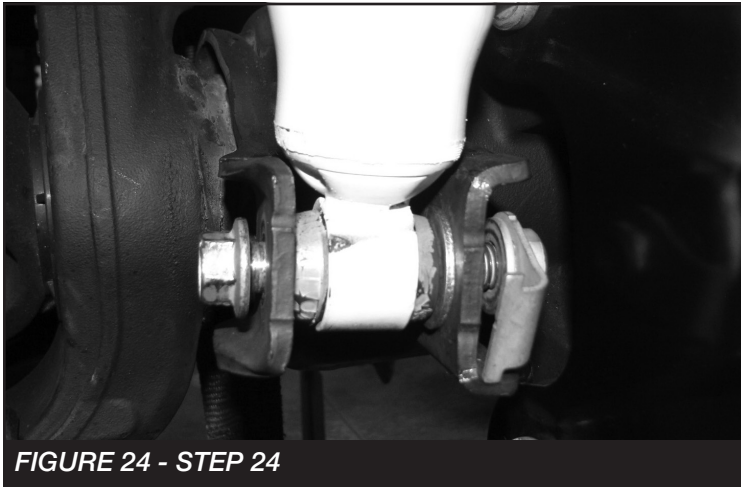

FIGURE 24 - STEP 24
24. Install the new front shocks FTS7236, FTS6236 or FTS810962 with the supplied bushing kits. Use the factory hardware. **SEE FIGURE 24. NOTE:** Due to vehicle variances the top of the lower shock mount may need to be sanded down to clear the shock body only if installing Stealth shocks. **SEE FIGURE ON LAST PAGE.**